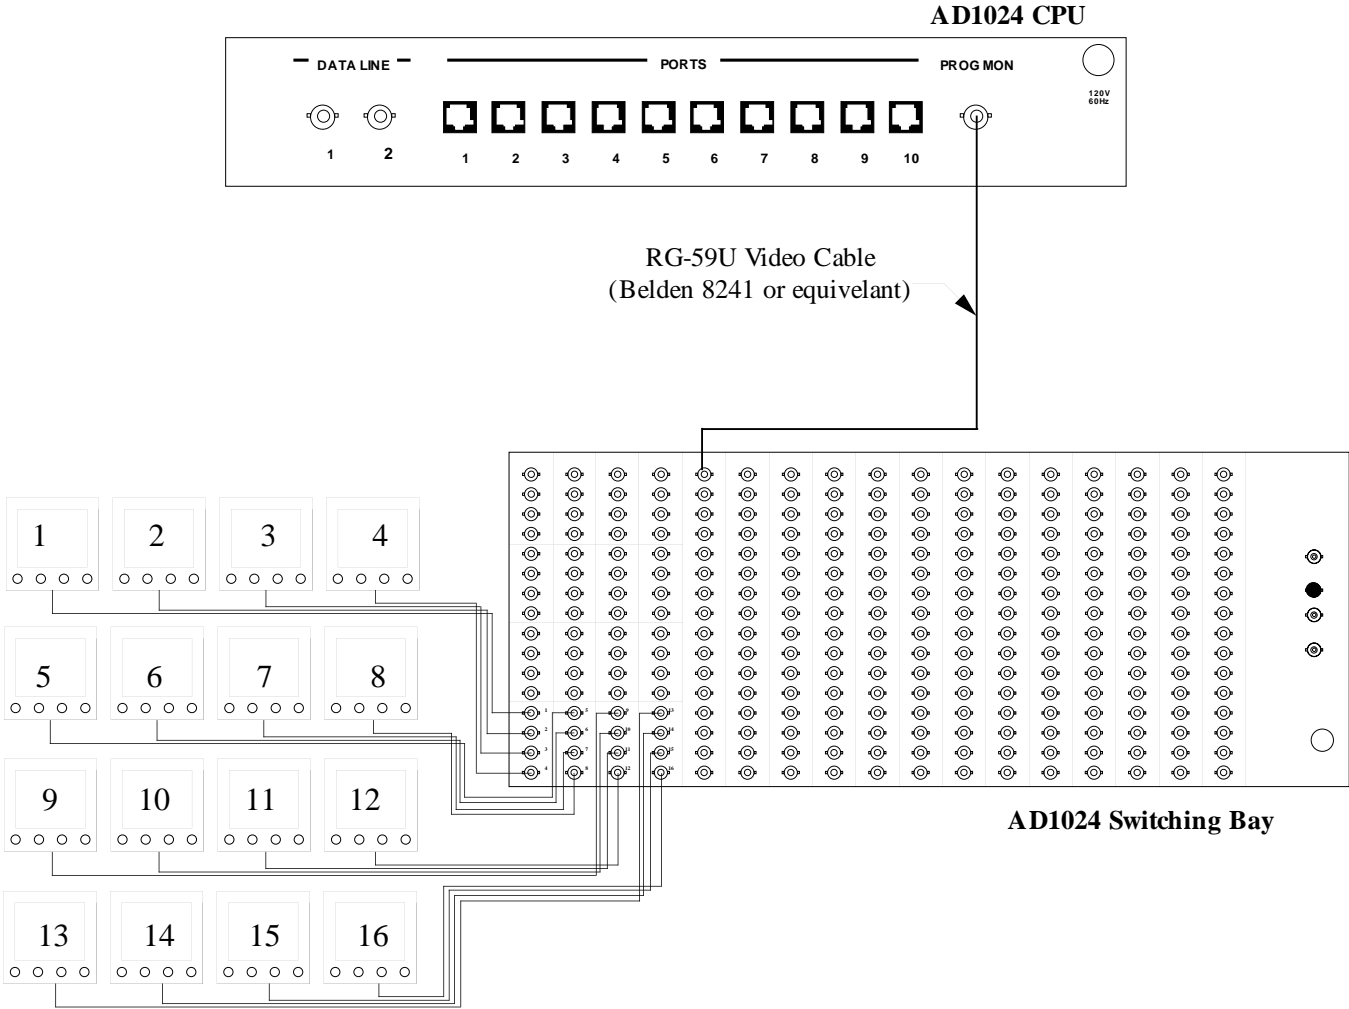

Figure 25 - System-Wide PROGRAM MONITOR Connection
1. Connect a 75 Ω , RG-59U video cable (Belden 8241 or equivalent) to the AD1024 CPU PROG MON BNC terminal (see Figure 25).